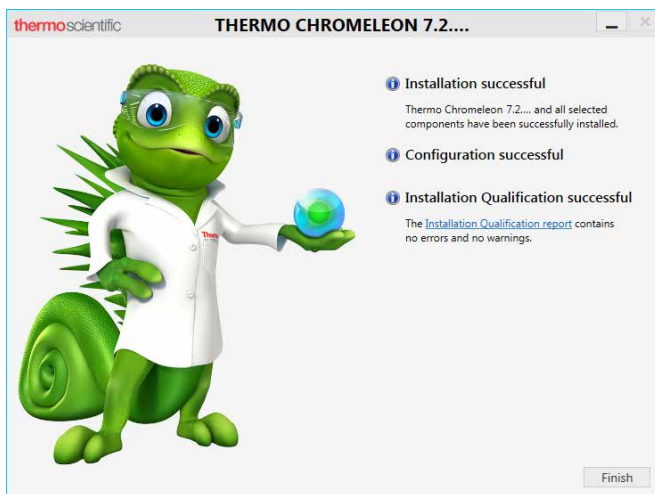

Figure 6: Chromeleon installation complete
6. An installation qualification report will be created (Section 5.6). To open the report, click the **Installation Qualification report** link provided in the setup dialog (Figure 6).